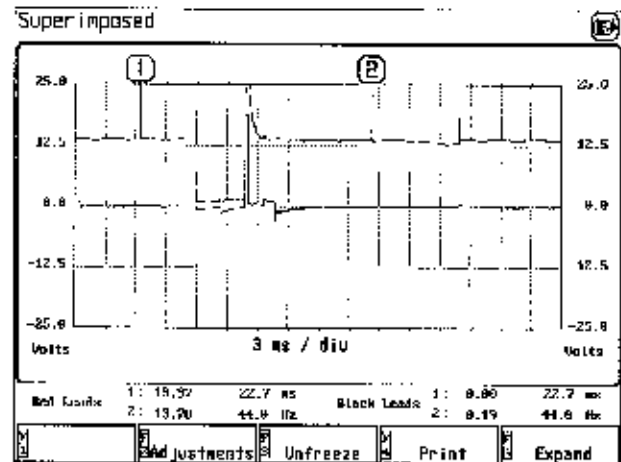

Figure 2-25
- [F5] to superimpose the waveforms (see Figure 2-25). This allows close comparison of both waveforms over time.